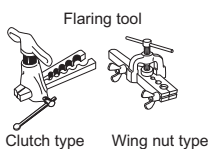
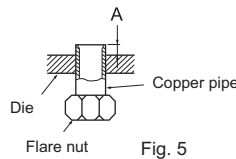

Fig. 4
Fig. 5
- Insert the drain hose fully into the drain pan at the rear right of the indoor unit. (Fig. 4)
- Insert the drain hose into wall hole sleeve (C), and hook the upper part of indoor unit on installation plate (1). Then, move the indoor unit completely to the left in order to make placing the piping in the back space of the unit easier.
- Cut out a piece of cardboard from the shipping box, roll it up, hook it onto the back rib, and use it as a spacer to lift the indoor unit. (Fig. 5)
- Connect the refrigerant piping with the extension pipe (B).
- Thrust the lower part of the indoor unit into the installation plate (1).
- Flaring work (Fig. 4, 5). Firmly hold copper pipe in the dimension shown in the table. Select A mm from the table according to the tool you use.